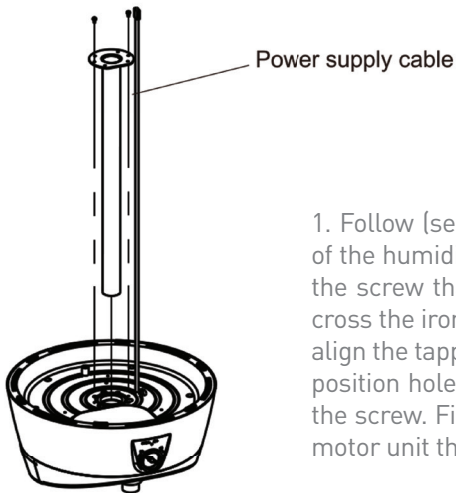

Figure 1
1. Follow (see Figure1) to reverse the base of the humidifier (upside down) and remove the screw that fixes the iron column. Then cross the iron column through the base and align the tapping hole of the column and the position hole in the base, and fix them with the screw. Finally, cross the terminal of the motor unit through the iron column.